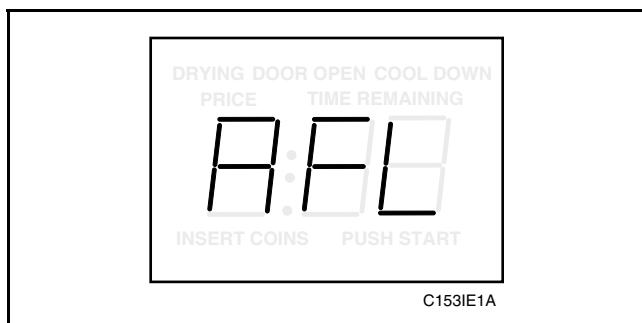

Figure 29
3. Press the LOW TEMP (+) pad or the NO HEAT (-) pad to scroll through the programmable options until “AFL” appears in the VFD, *Figure 29*.